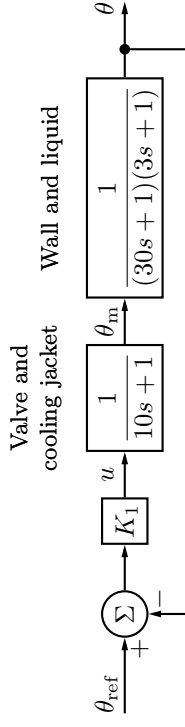

Figure 7.1c
b) Suppose that we make a simple feedback loop instead, see Figure 7.1c. How is the Bode plot affected? Again, choose  $K_1$  so that the gain margin  $A_m = 2$ , and determine the gain crossover frequency  $\omega_c$  and the steady-state error. Compare with a) with respect to steady-state errors and response times. Conclusions?